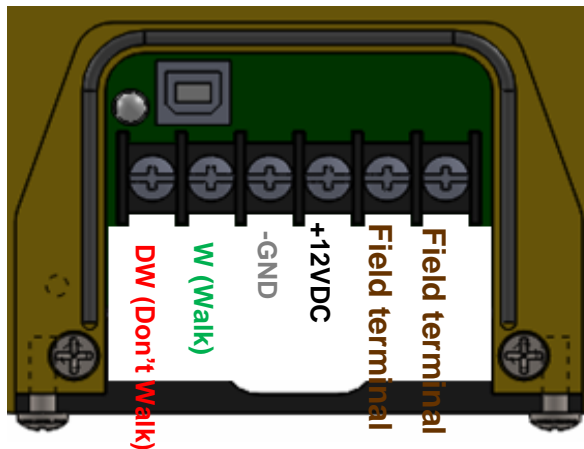

Figure 1
4. Connect the four wires to the terminal block connections as shown in Figure 1.
5. If there are pedestrian field terminal wires present at the station connect them to the terminal block in the positions shown in Figure 1.
3. If there are pedestrian field wires present at the station, connect them to the positions shown in Figure 1.